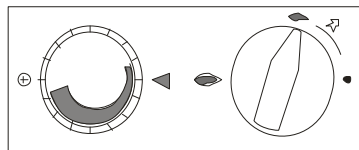

Figure 5 - Ignition Position
6. The arrow should now be pointing to the PILOT position as shown in **Figure 5**.